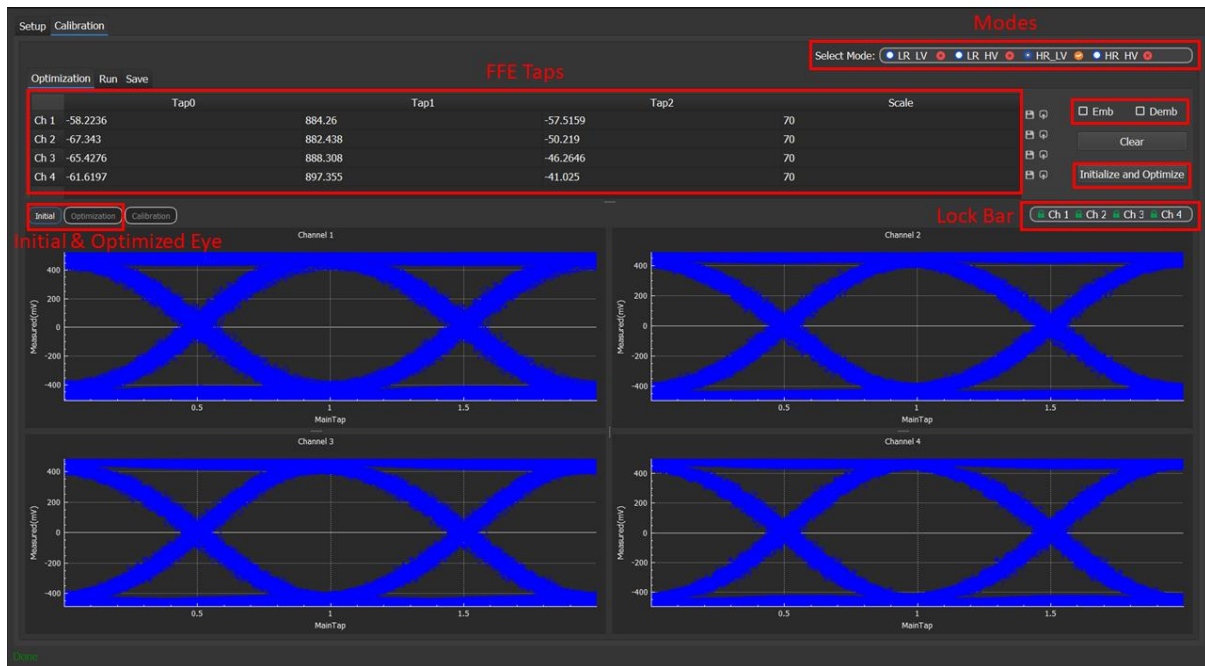

Figure 8: Calibration - Optimization
Referencing Figure 8, while in the optimization mode, the following steps should be done by respective order:
5. The GUI in Figure 8 also shows the FFE taps generated, initial eye, and optimized eye.